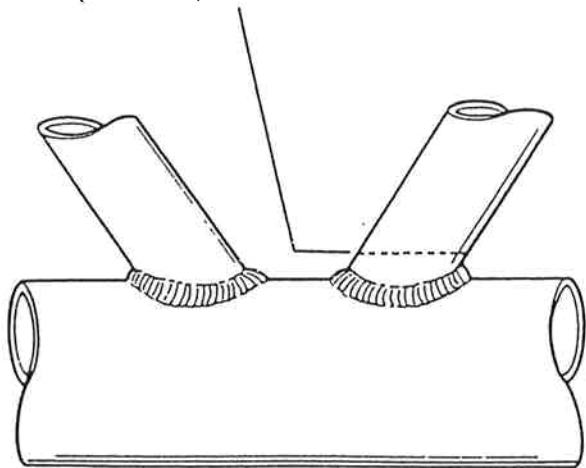
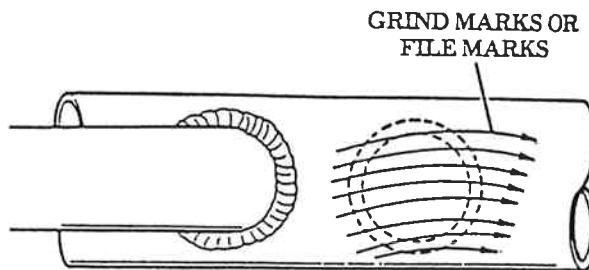
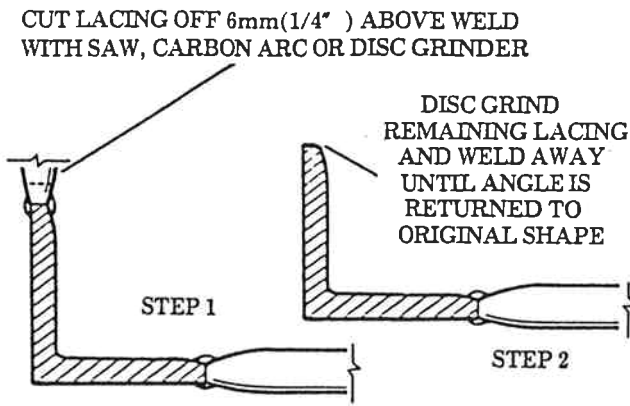

Fig. 2-8 Cutting Off Damaged Tubular Lacings
Fig. 2-9 Removing Remaining Material
Fig. 2-15 Removing Damaged Lacing
Grind or file the remaining weld bead flush with the cord, using extreme care not to notch the chord or nick it in any way (see Fig.2-8).
3. Remove the remaining material. Grind marks should be parallel to the chord to minimize the possibility of damaging the chord (see Fig. 2-9).
Due to the location of the lacing being removed in Fig.2-9, disc grinding the remaining 1.5 mm (1/16 inch) of weld is difficult, if grind marks are to be kept longitudinal to the cord. Therefore, a large file should be used to remove the remaining 1.5mm (1/16 inch) weld. If no other member interferes with grinding, a fine grit disc grinder should be used. Note the direction of the grind marks in Fig.2-9.
1. Cut the lacing to be replaced off about 6mm (1/4 inch) above the weld, using a hacksaw, carbon arc torch, or disc grinder (see Fig.2-8 on page 2-7 and Fig.2-15 on page 2-10).
2. Disc grind the remaining lacing and weld material away until the angle is returned to its original shape (see Fig. 2-9 on page 2-7 and Fig. 2-15).